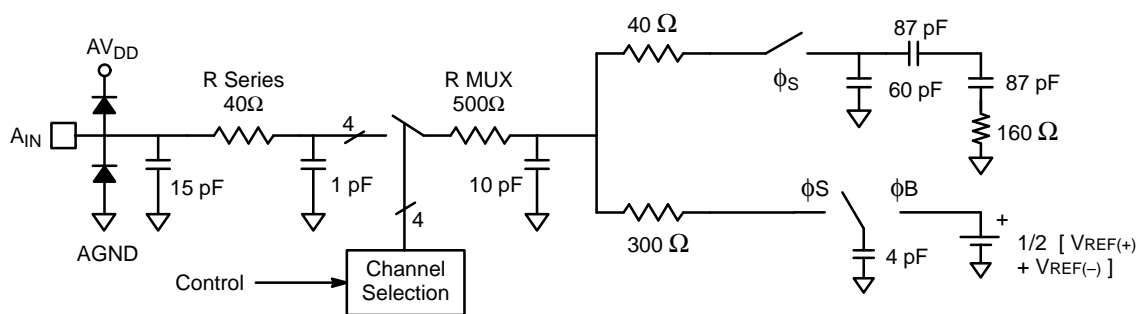

Figure 9. Analog Input Equivalent Circuit
- See V_{IN} input equivalent circuit (see Figure 9.).
The MP87198's performance is optimized by using analog input circuitry that is capable of driving the A_{IN} input. Figure 9. shows the equivalent circuit for A_{IN} .